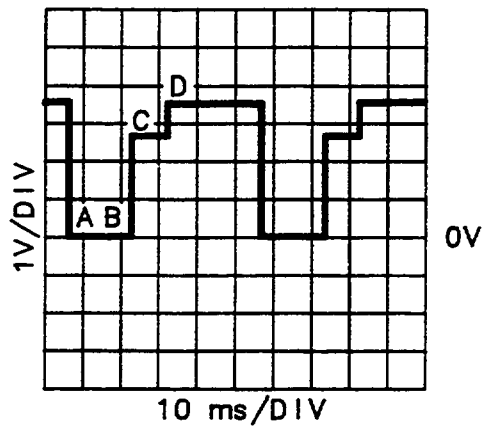

Figure 8-10. A4TP18 ADC Input Waveform
20. Connect the oscilloscope to A4TP18. Verify the signal shown in Figure 8-10.
2. Refer to Figure 8-10, A4TP18. Examine the displayed waveform at point B (if the power sensor is connected to the front input port) or at point C (if the power sensor is connected to the rear input port).
The labels on Figure 8-10 indicate measurements by the ADC input multiplexer as follows: